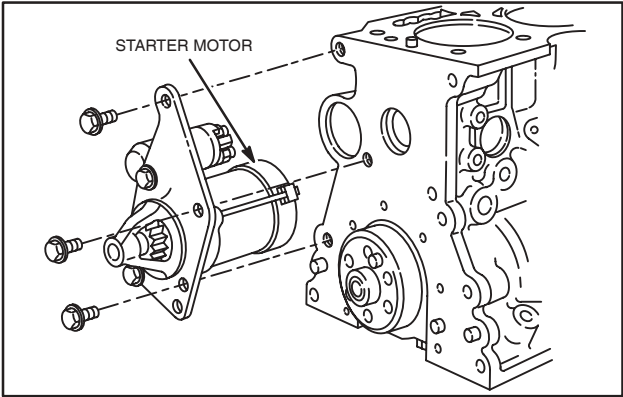

Fig. 1 – Removing Starter And Bracket
- 4. Remove starter motor, Fig. 1.